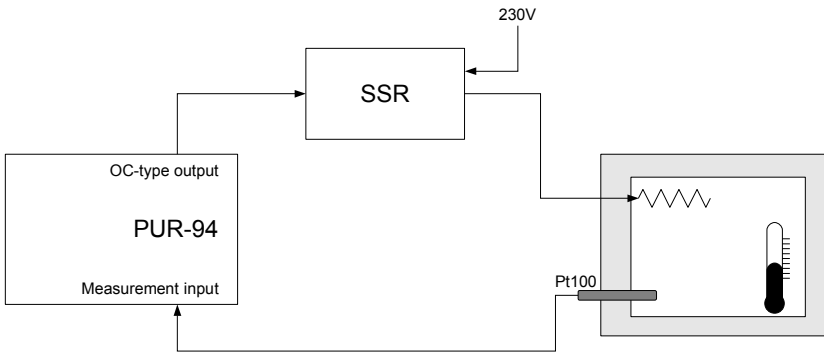

Figure. 10.5 Example arrangement of connections for auto-tuning
- a) Connect the system in accordance to the diagram in **Figure. 10.5**.